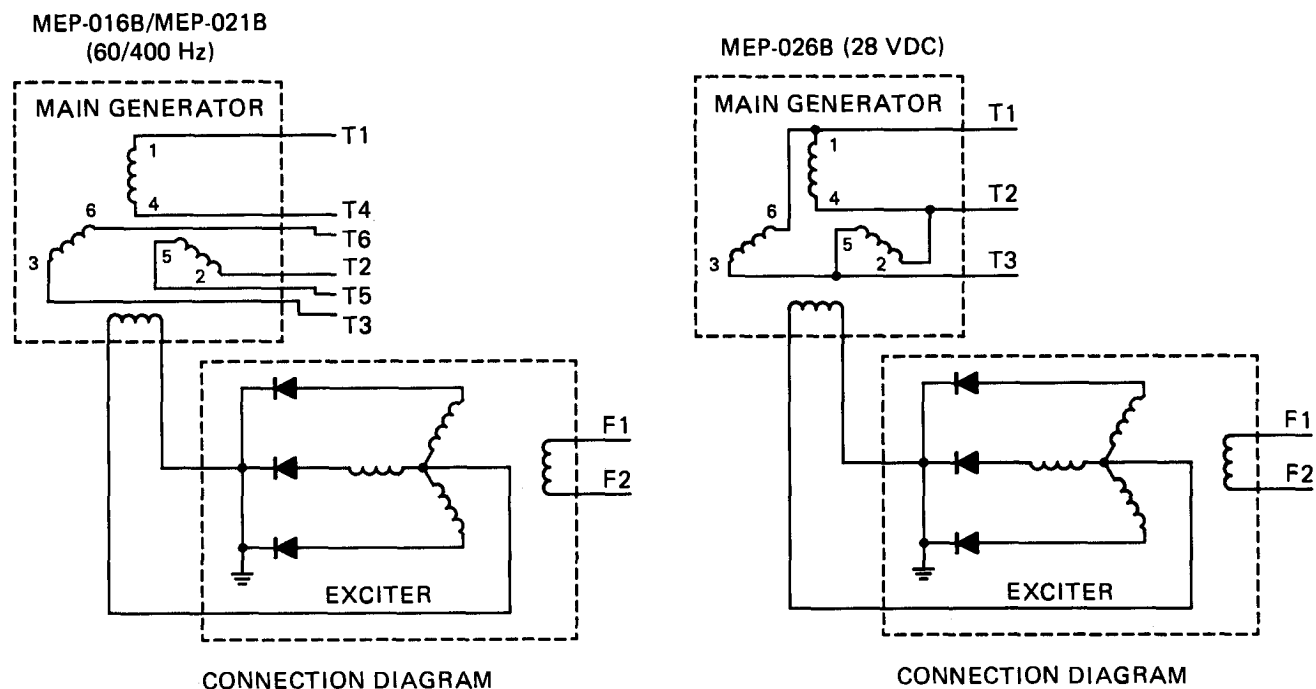

Figure 5-11. Generator Wiring Schematics.
- (f) Remove the high-voltage lead (2) from the winding and proceed with the tests of the remaining circuits to be tested. Make sure that all circuits not under test are securely grounded.
- (5) Results. Any evidence of insulation breakdown is cause for replacement of the stator under tests.
- b. Perform winding resistance test. Refer to Figure 5-11.
- (1) Perform winding resistance test using a multimeter (set to read ohms).